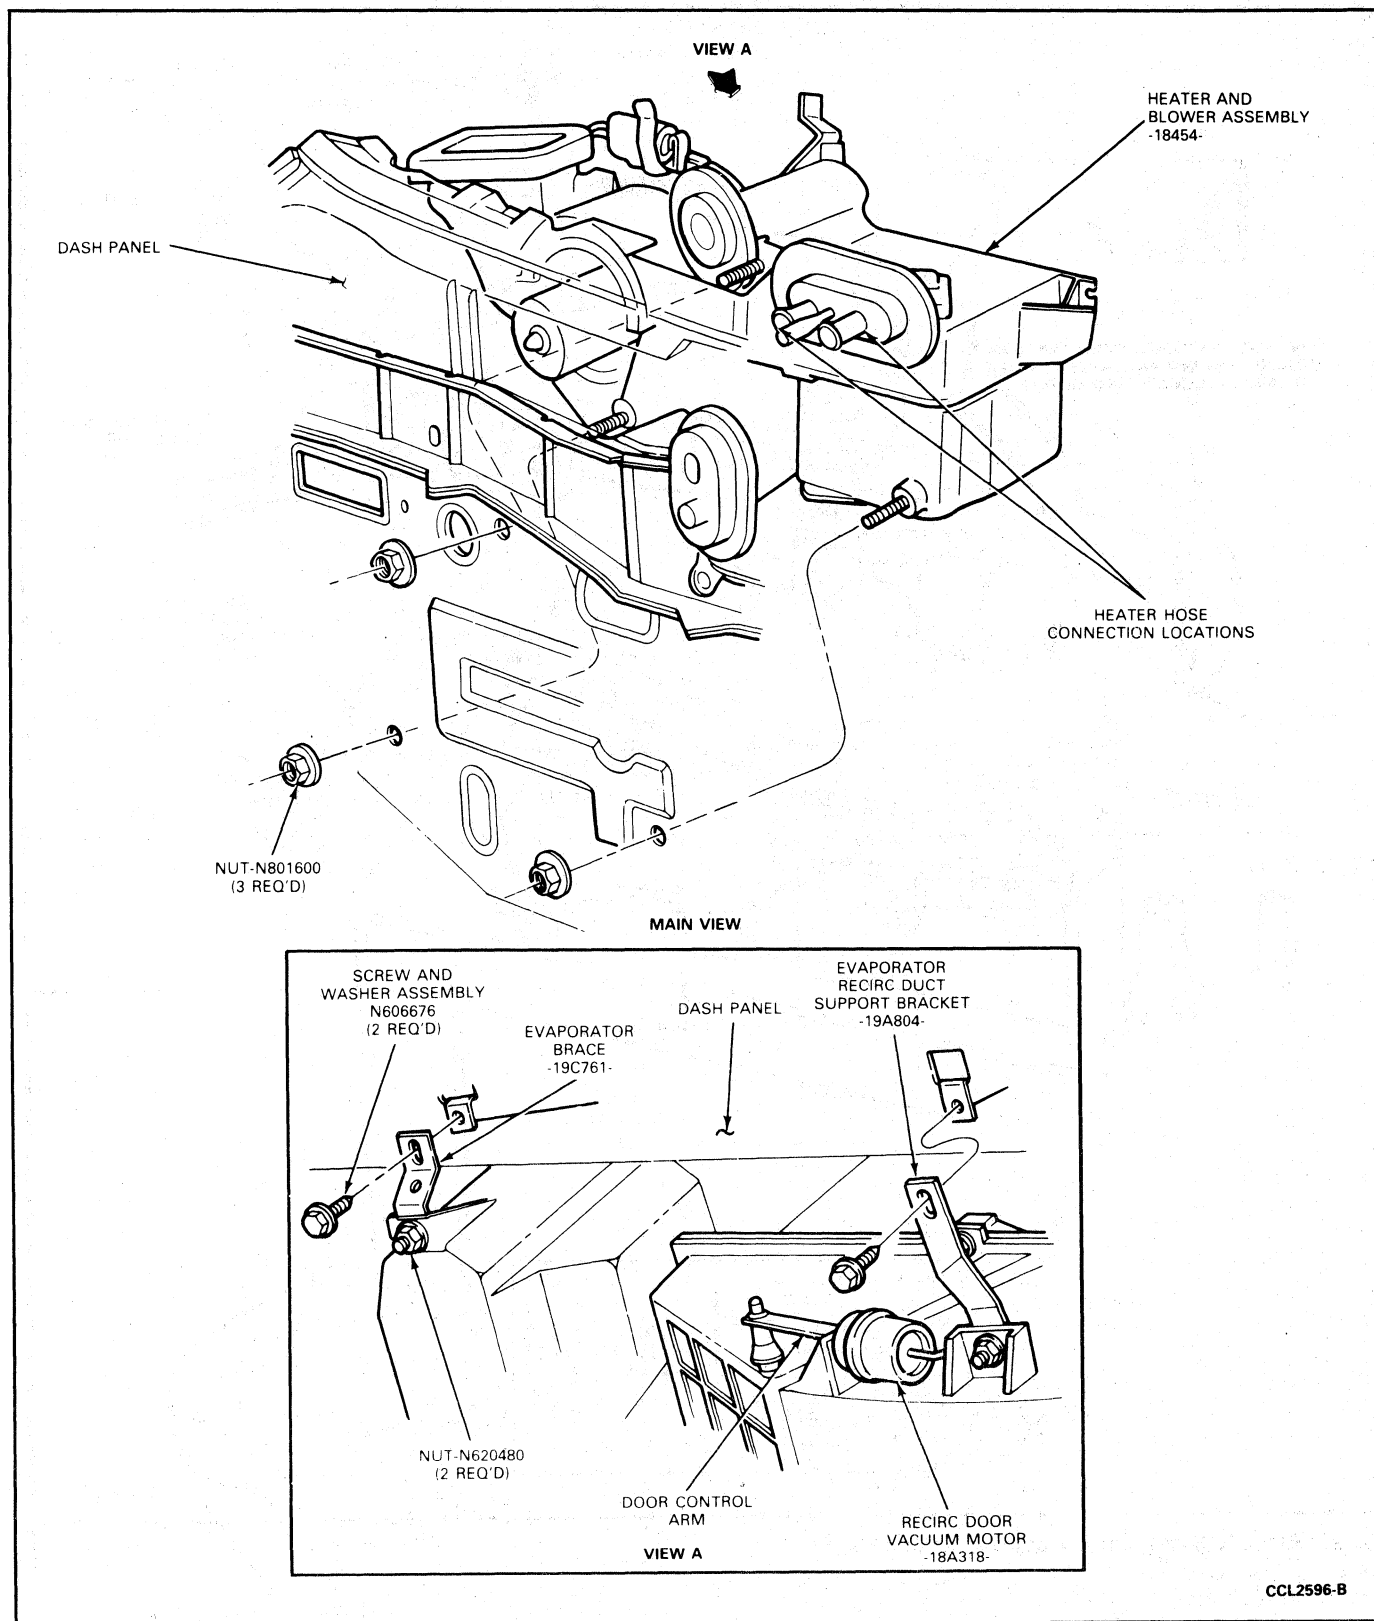
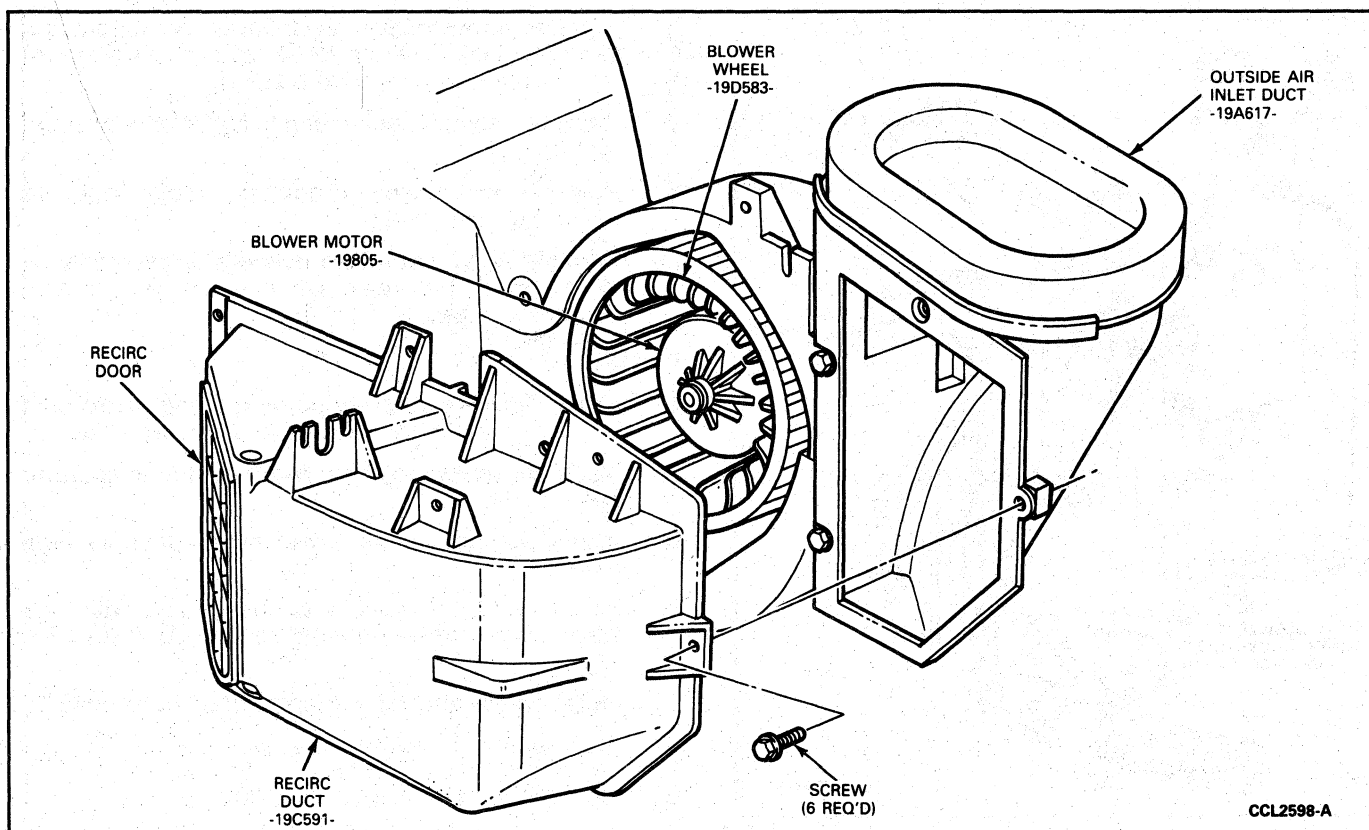

FIG. 31 Heater and A/C Evaporator Installation
FIG. 32 Recirc Duct Removal from Evaporator Case
9. Remove two screws attaching floor register (or rear seat adapter) to bottom of evaporator case (Fig. 31, View B).
10. Remove three nuts attaching evaporator case to dash panel in engine compartment (Fig. 31, Main View).
11. Remove two screws attaching support brackets to cowl top panel (Fig. 31, View A).
2. Disconnect and remove vacuum harness (Fig. 31, View A).
3. Remove six screws attaching recirc duct and remove duct from evaporator case (Fig. 32).
5. Remove support bracket from evaporator case (Fig. 31, View A).
9. Remove moulded seals from evaporator core tubes (Fig. 31, View A).
4. Remove seal from heater core tubes (Fig. 31).
5. Remove three screws attaching blend door actuator (Fig. 10) to evaporator case. Remove actuator and cold engine lock out switch (held on by spring tension) from case (Fig. 31).
2. Remove screw attaching recirc duct (Fig. 32) support bracket to cowl (Fig. 31).